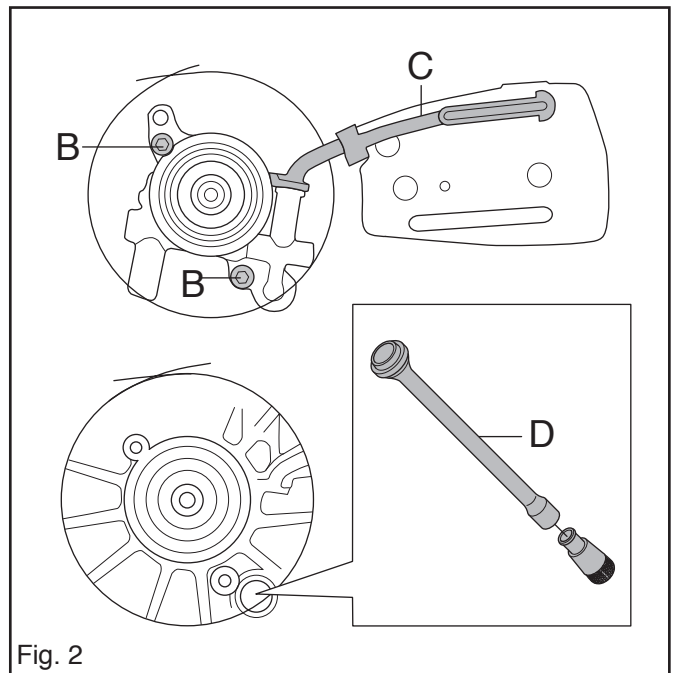

Fig. 2
4. Grease in the needle bearing before fitting. Fit the clutch drum (C) with needle bearing (D) and chain drive sprocket (E). See fig. 2 page 26.
5. Fit the washer and locking ring (B). See fig. 2, page 26.
4. Remove the two bolts (B) and lift up the oil pump from the crankcase. See fig. 2.
5. Use a screwdriver to push up the oil hose at C. Lift up the hose and pull it out of the oil pump. See fig. 2.
6. Use pointed pliers and pull up the suction pipe (D) with filter. See fig. 2.
1. Insert the suction pipe (D) in the hole in the crankcase. See fig. 2 page 28.
6. Fit the oil pump in the crankcase. Fit the oil hose with seals. See fig. 2 page 28.
- The mixing venturi, B in fig. 2.